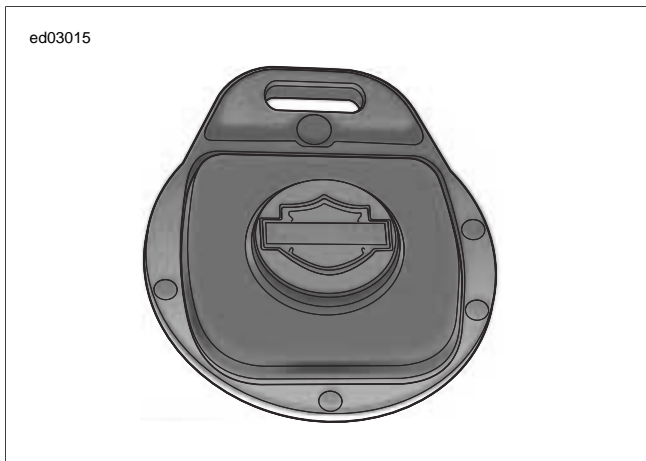

Figure E-32. Key Fob Assembly: TSSM
1. See Figure E-32. Open the key fob case.
2. Replace battery (1).
3. Align case and circuit board (3) as shown. Snap case halves together.